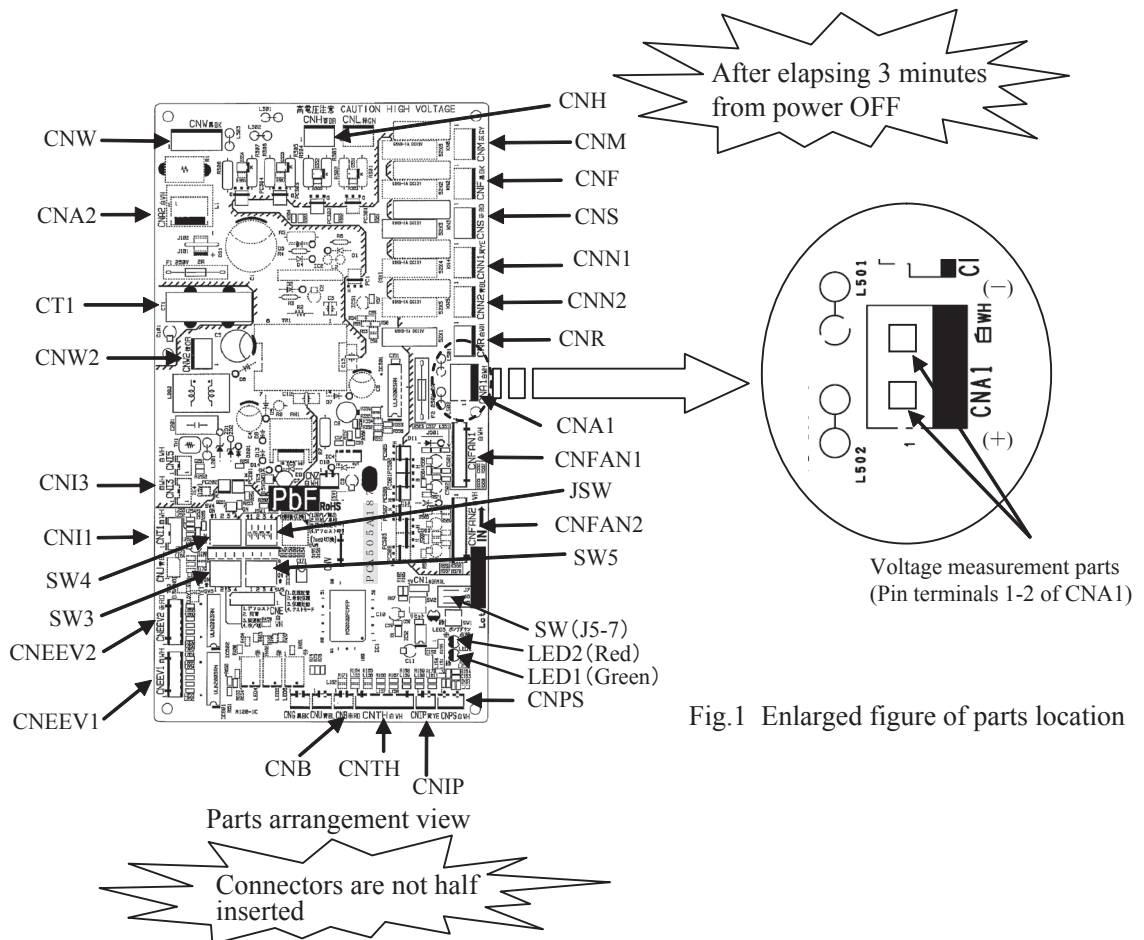

Fig.1 Enlarged figure of parts location
- 6) Connect the connectors with the control PCB referring to the parts arrangement of Fig. 1.
- a) After the breaker is shut down, remove the service panel, top panel and rear panel. (Refer to Fig.1).